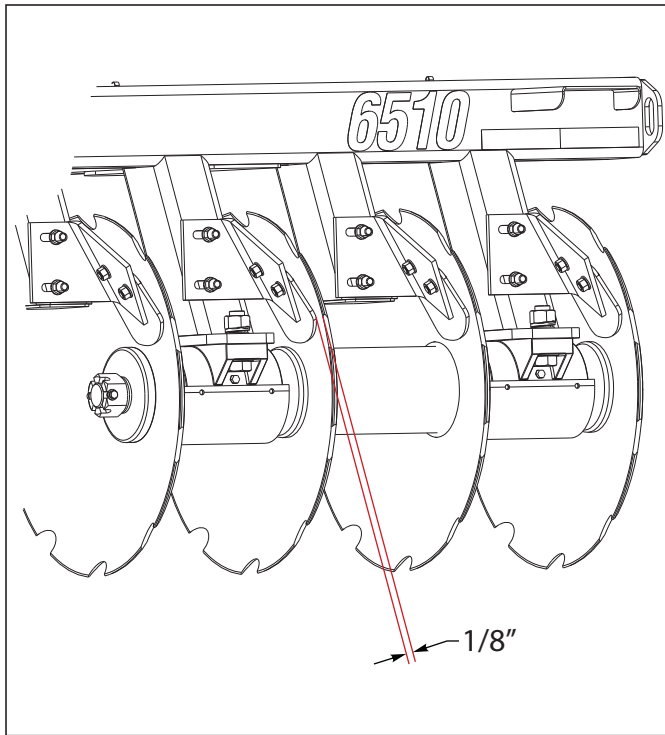

Figure 4-7: Scrapper Adjustment
1. Scrapers should be set initially as close to the disc blade as possible without rubbing (approximately 1/8") *See Figures 4-7..* A slotted hole on each scraper mount is provided for individual adjustment.